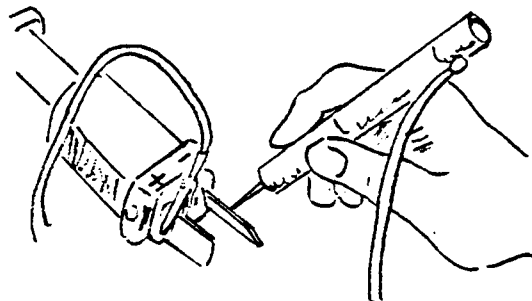

FIGURE 3
(b) If the circuit in Figure 2 is complete, reverse test light leads as shown in Figure 3. CIRCUIT SHOULD NOT BE COMPLETE. If circuit is complete, check DC cord for a "short" between the two wires. More probably, one or both diodes have "shorted". Refer to "Fuse Link Blowing" part (b) for continuity test of diodes.
- (c) If (a) Figure 2 and (b) Figure 3 check good, assume the capacitor is shorted. Remove one wire from a capacitor terminal and place continuity tester clip to one terminal and probe to other. If circuit is complete, capacitor is "shorted" and must be replaced.